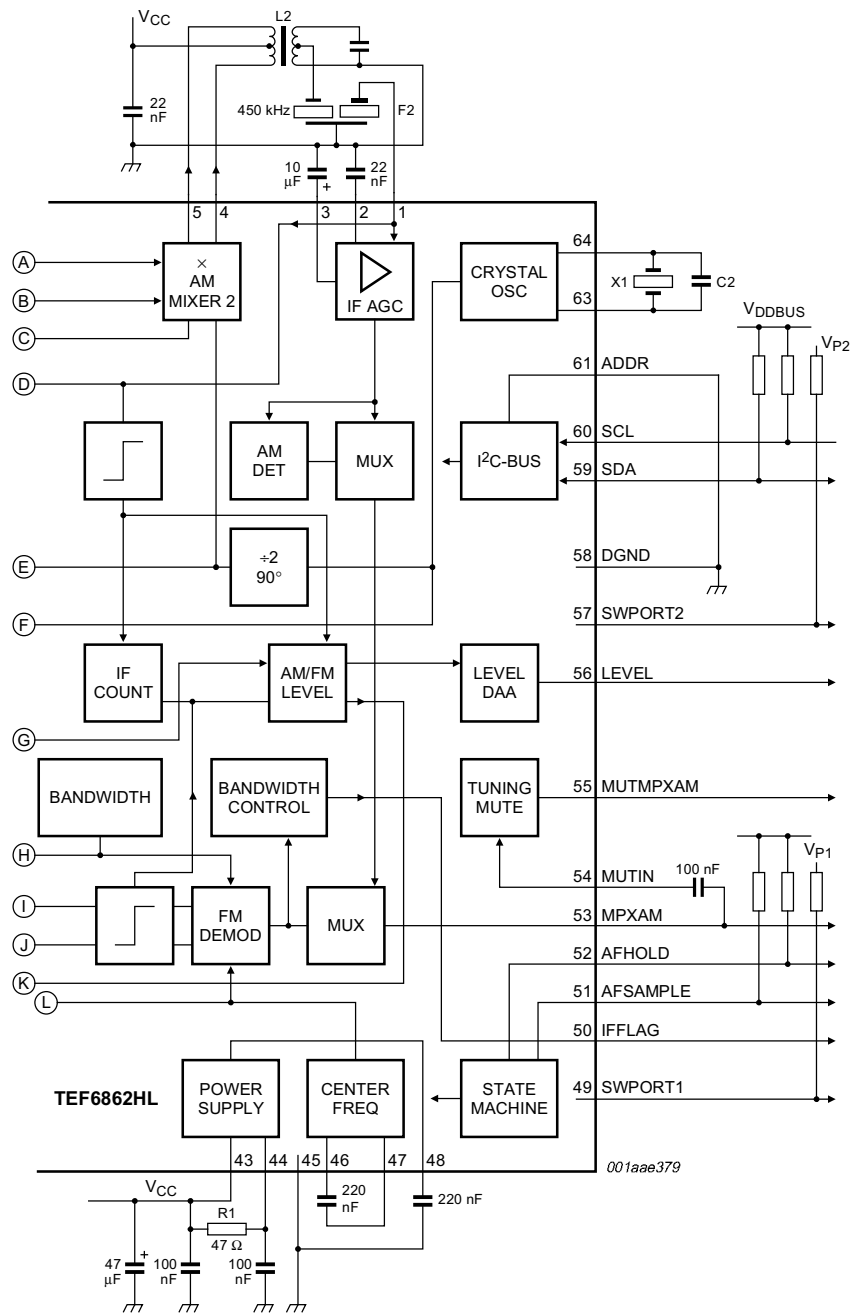
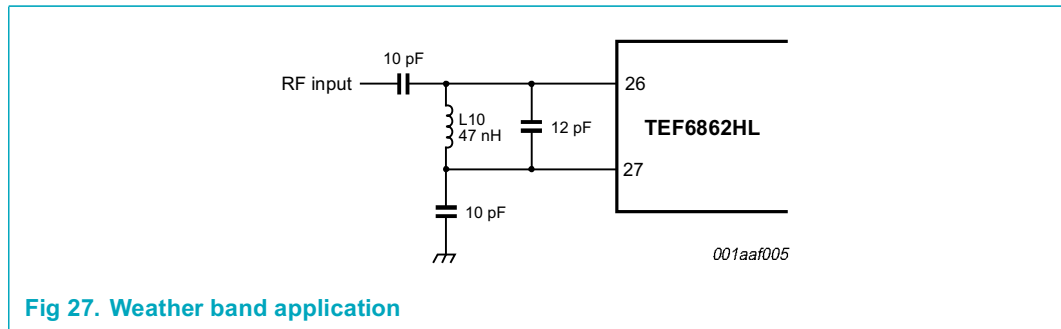

Fig 26. Application diagram of TEF6862HL (continued from Figure 25)
Fig 27. Weather band application
**Table 55. Dynamic characteristics ...continued** $V_{CCA} = 8.5 \text{ V}$ ;  $T_{amb} = 25 \text{ }^\circ\text{C}$ ; see Figure 25 and Figure 26; all AC values are given in RMS; unless otherwise specified.
$V_{CCA} = 8.5\text{ V}$ ;  $T_{amb} = 25^\circ\text{C}$ ; see Figure 25 and Figure 26; all AC values are given in RMS; unless otherwise specified.
Weatherband overall system parameters[2]; see Figure 27
Table 58. List of components of Figure 25, Figure 26 and Figure 27